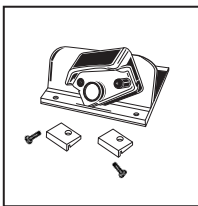

Fig. 1
2. Upon purchasing your ADAPT-A-RULE, remove the upgrade kit packet and take out the bearings and screws. The Logan hand-held mat cutters (MODEL 2000, 3000 or 4000 only) are equipped with threaded holes in the cutter base to accept the bearings and screws for purposes of upgrading (FIG. 1)